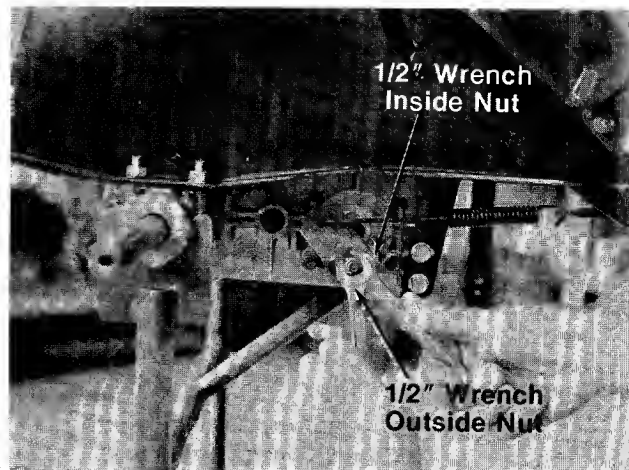

FIGURE 24.
- 3. Tighten the outside nut against the inside nut, using two 1/2" wrenches. See figure 24.